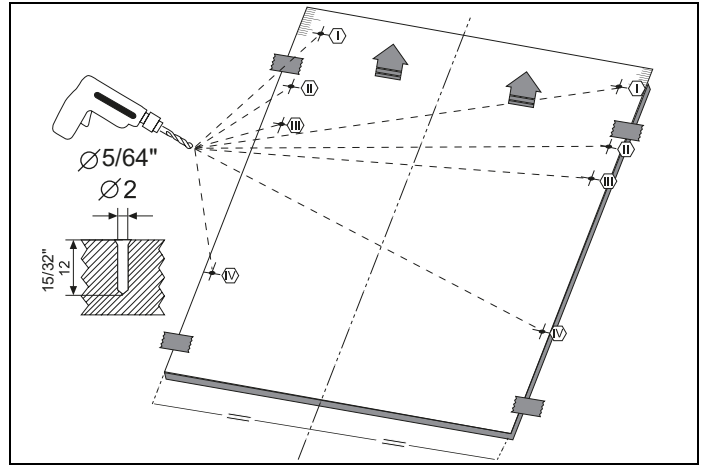

Fig. 26
3) As shown in Fig. 26, the screw hole is opened to the outer door from the points marked on the installation plan. Diameter of Drill Bit: 5/64" (2 mm) Depth of Drill Bit: 15/32" (12 mm)